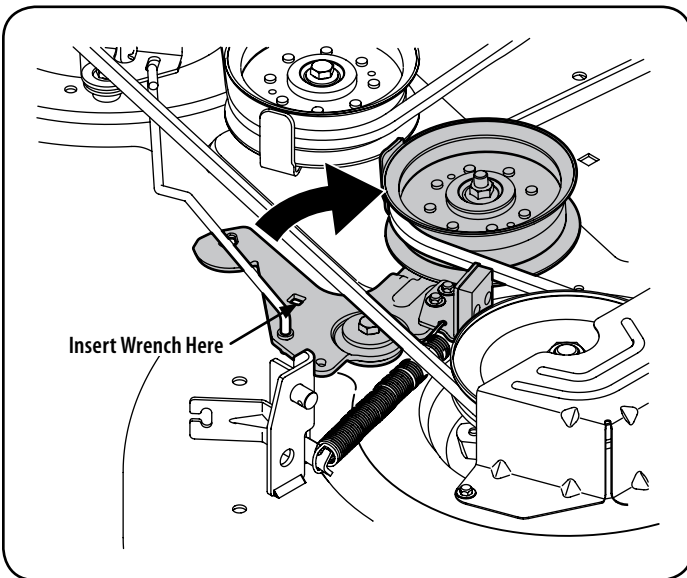

Figure 24
- f. Working on the right side of the tractor, insert a $\frac{3}{8}$ " drive ratchet wrench, set to tighten, into square hole found on the idler bracket. See Figure 24.